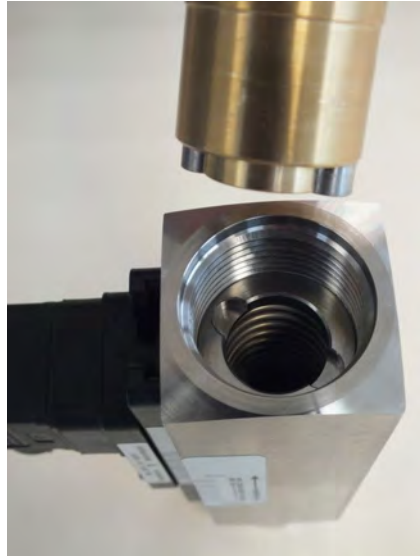

Fig. 45: Insert threaded ring insertion tool (outlet)
8. ➔ Insert the threaded ring insertion tool into the device outlet (Fig. 45) and turn until it rests in the keyway of the threaded ring.